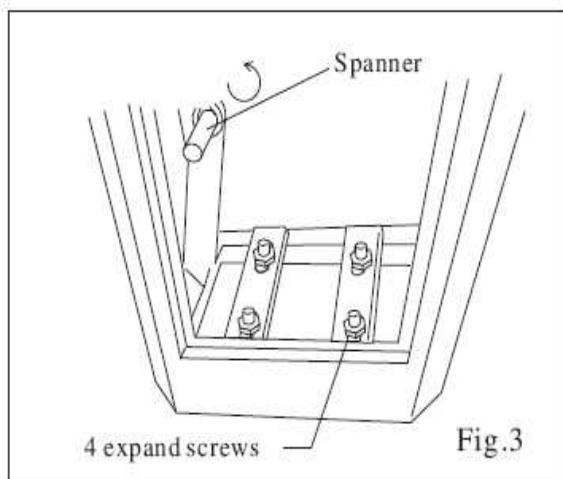

Fig.3
- 1) Rotate the Spanner then open the cover(Fig.3).